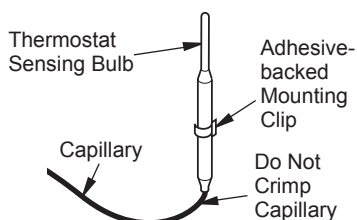

Figure 50 - Positioning the Thermostat Sensing Bulb in the Vertical Position with the Capillary at the Bottom
4. The mounting clip must be a minimum of 3" from bottom of fireplace to prevent crimping of capillary. Once you have decided on a location, clean the area thoroughly. Remove the paper backing from the adhesive on back of mounting clip. Press the clip into the new location so that the thermostat sensing bulb will be positioned vertically with the capillary at the bottom (see Figure 50). Slide the thermostat sensing bulb into the clip.